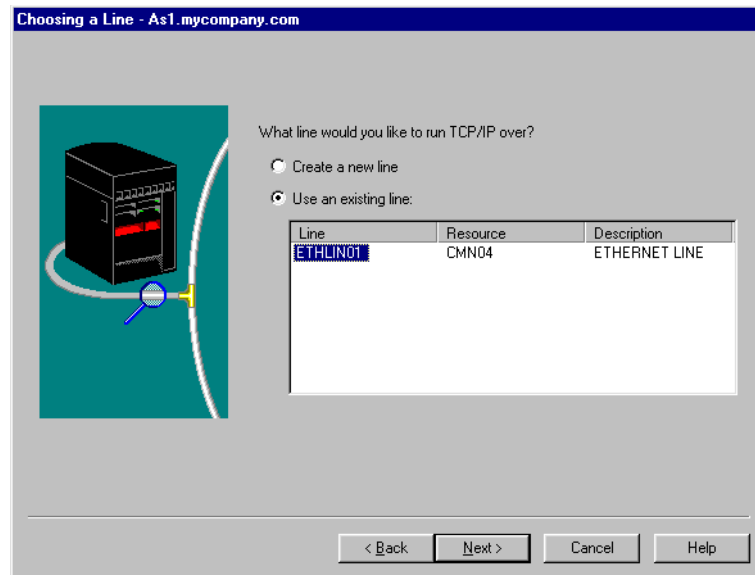

Figure 450. Choosing a Line
4. The New TCP/IP Interface Resource window shows all the hardware on your system that matches your type selection. In our example, we have one Ethernet adapter (CMN04). You should use the buttons on the window to determine the location of the adapter. You can also use the buttons to list communication lines that are currently defined. Right-click the hardware resource you want to configure. Click **Next**. The Choosing a Line window appears (Figure 450) if a line is already defined for the hardware resource you selected. Go to the next step. The Creating a New Line Description window